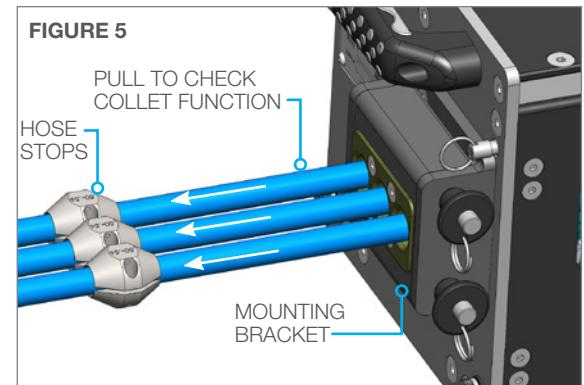

FIGURE 5
5. Pull on the hoses from the back of the AUTOBOX® (ABX-3L-V3) Hose Tractor to ensure that the Collet does not allow the waterblast tool back out of the Guide or Hose Tractor. (**Figure 5**)
6. To install hose stops, push waterblast tools through the exchanger until the tips are 1-2" (25-51 mm) past the end of the tube bundle. Loosely install the stop, then push toward the mounting bracket and tighten in place. (**Figure 5**)